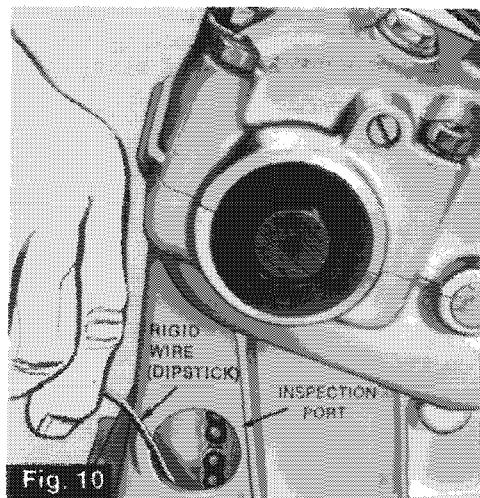

Fig. 10
2. Using a fairly rigid piece of wire as dipstick, check oil level. (See Fig. 10). On 399R and 399ER Models, level must reach 2 1/4". On 640ER Models, level must reach 3 1/4" on dipstick.